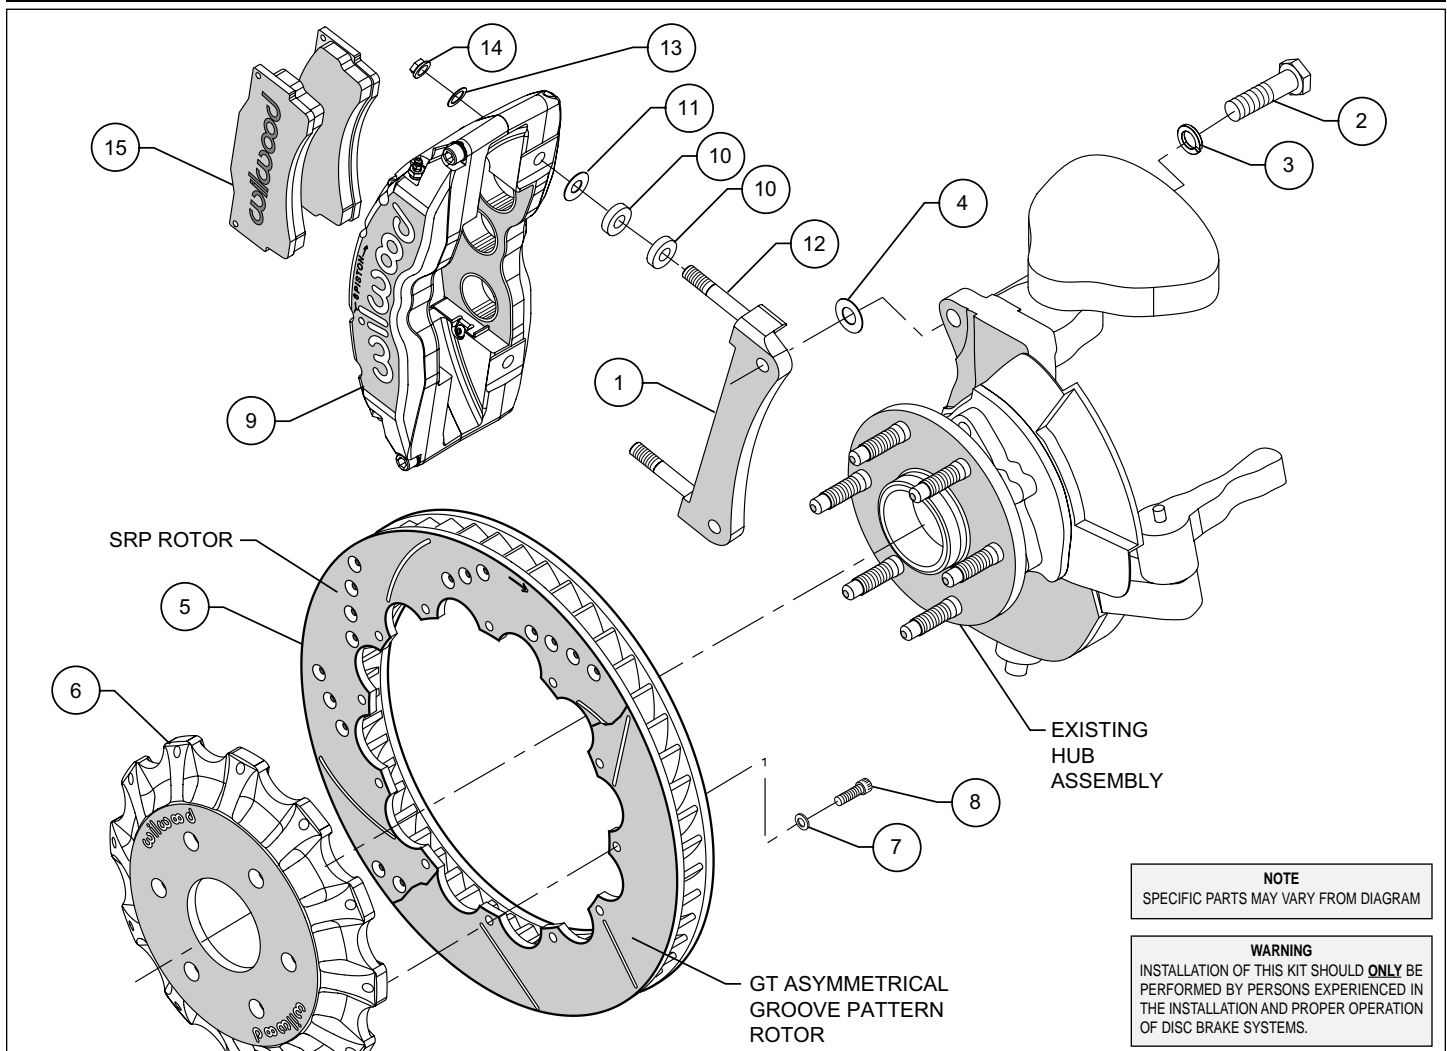

Figure 1. Typical Installation Configuration
- The caliper mounting bracket assembly (1) should be installed first with clean, dry threads on the mounting bolts. Install the bracket from the outboard side of the spindle by sliding the bolt (2) through lock washer (3) and bracket (1). Place shim washer (4) between the bracket (1) and the spindle (see Figure 1). The bracket must tighten squarely against the side of the spindle body. Inspect for interference from casting irregularities, machining ridges, burrs, etc. Use one thin shim (4) between the bracket (1) and spindle during initial trial fitting.